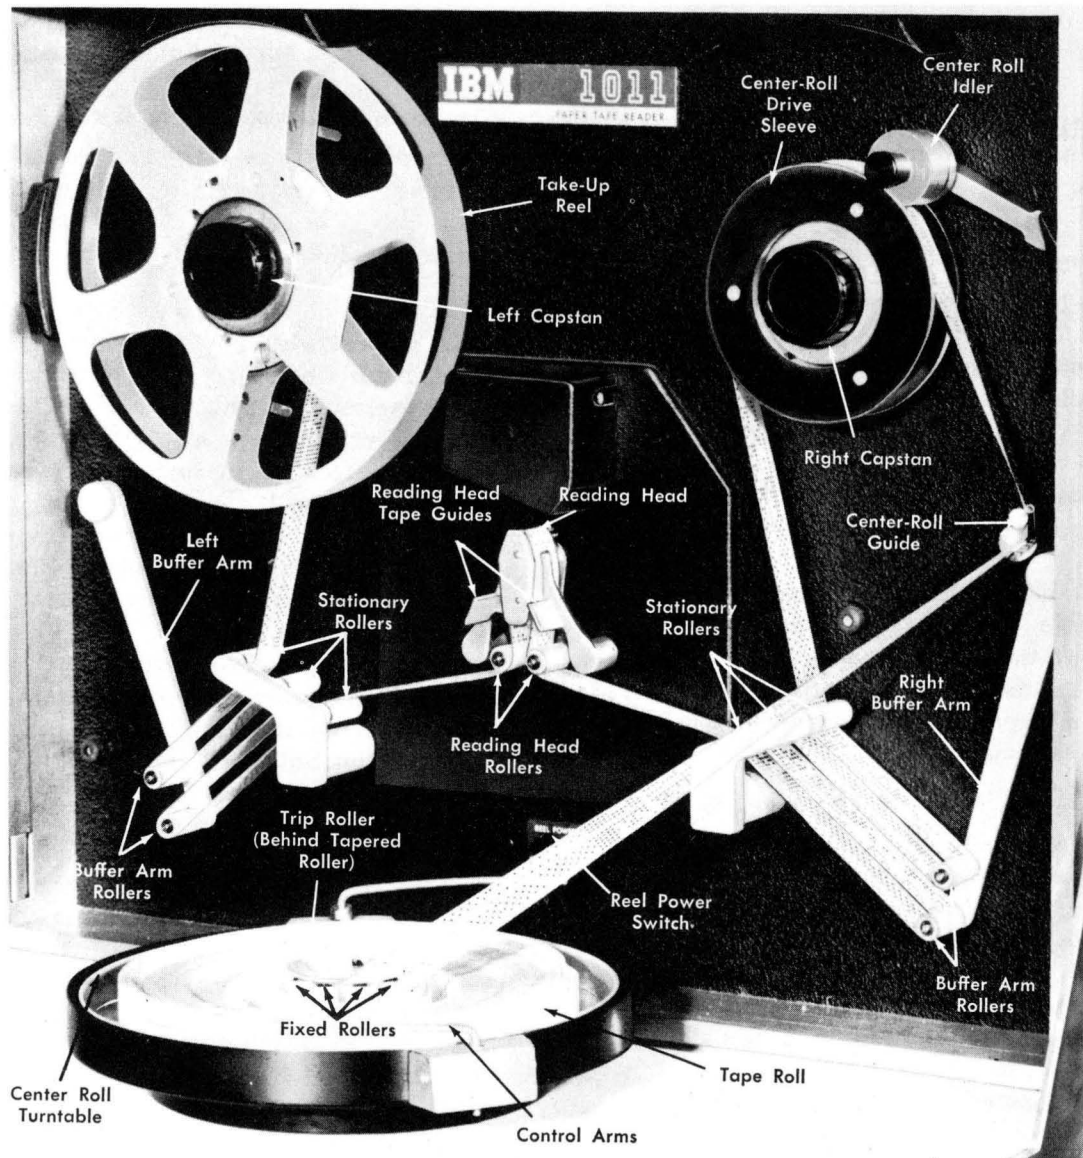

Figure 43. Center-Roll Feeding
2. Move the two buffer arms upward until they latch in position (Figure 43).